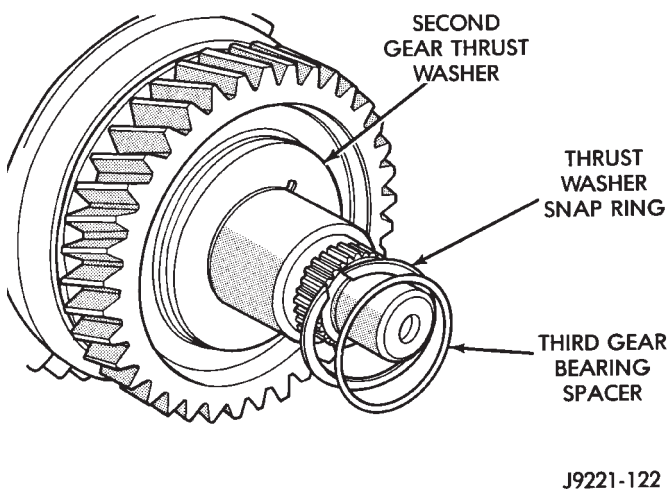

Fig. 61 Bearing Spacer And Snap Ring Location
(4) Remove third gear bearing spacer (Fig. 61).
(5) Remove snap ring that retains second gear thrust washer on mainshaft (Fig. 61).